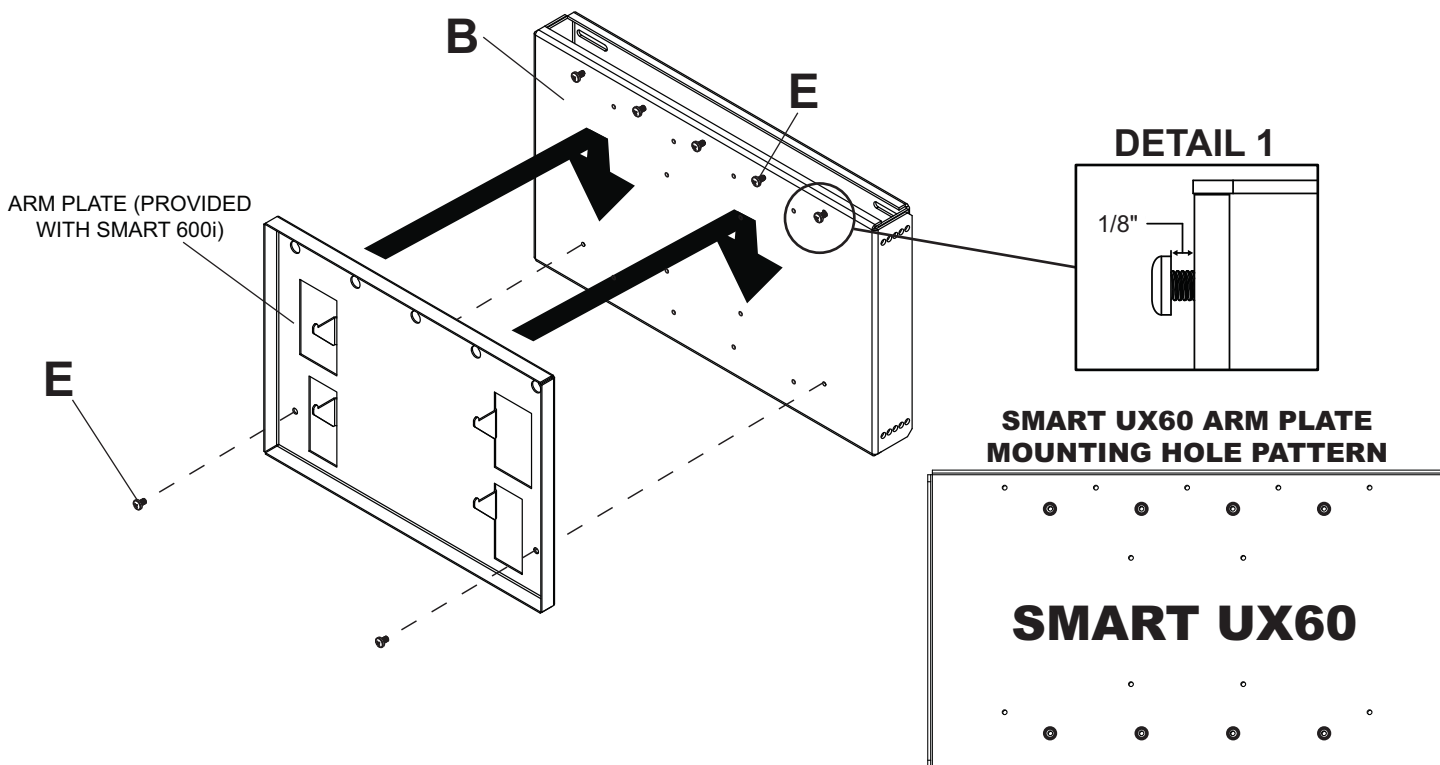

fig 3.1
- 3** Hand thread five 10-32 self-tapping screws (E) into adapter plate leaving 1/8" of exposed thread as shown in detail 1 using a #2 phillips screwdriver. Hook arm plate (provided with projector arm) onto keyhole slots of screws and secure using two 10-32 self-tapping screws (E) as shown using a #2 phillips screwdriver. Tighten all fasteners.
**NOTE:** See figure 3.1 mounting hole pattern for SMART UX60.